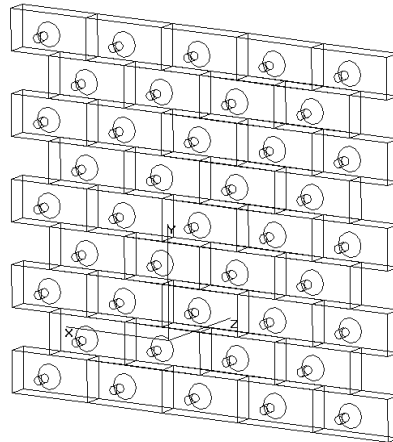

FIGURE 3.35 - Example of staggered rectangular tiles with conical "bump" geometry.
Staggered rectangular tiles are similar to rectangular tiles except that alternate rows of tiles are displaced by one-half the tile width, like brickwork. An example of staggered rectangular tiles with conical "bump" geometry is shown in Figure 3.35. You specify staggered rectangular tiles by their height and width. Note that for Constant (C) or Variable Rows (V) variation types, succeeding rows are staggered by half the tile width. For Parameterized (P) variation type, you must enter the stagger value with the use of the *iRow* variable in the Row Offset data entry point. Failure to do so, results in a non-staggered array of rectangles. This Row Offset value allows you to vary the stagger as a function of row number, in fact, it can be nonlinear dependent on the function that you enter for the Row Offset.